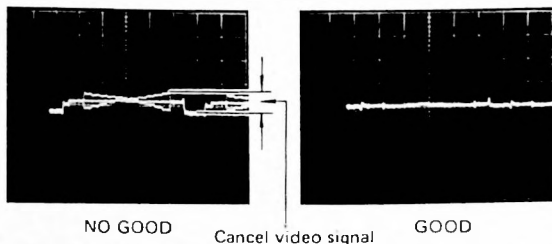

Fig. 4-4-24
- Adjust V. EDGE BALANCE VR201 to cancel the video signal (Fig. 4-4-24)